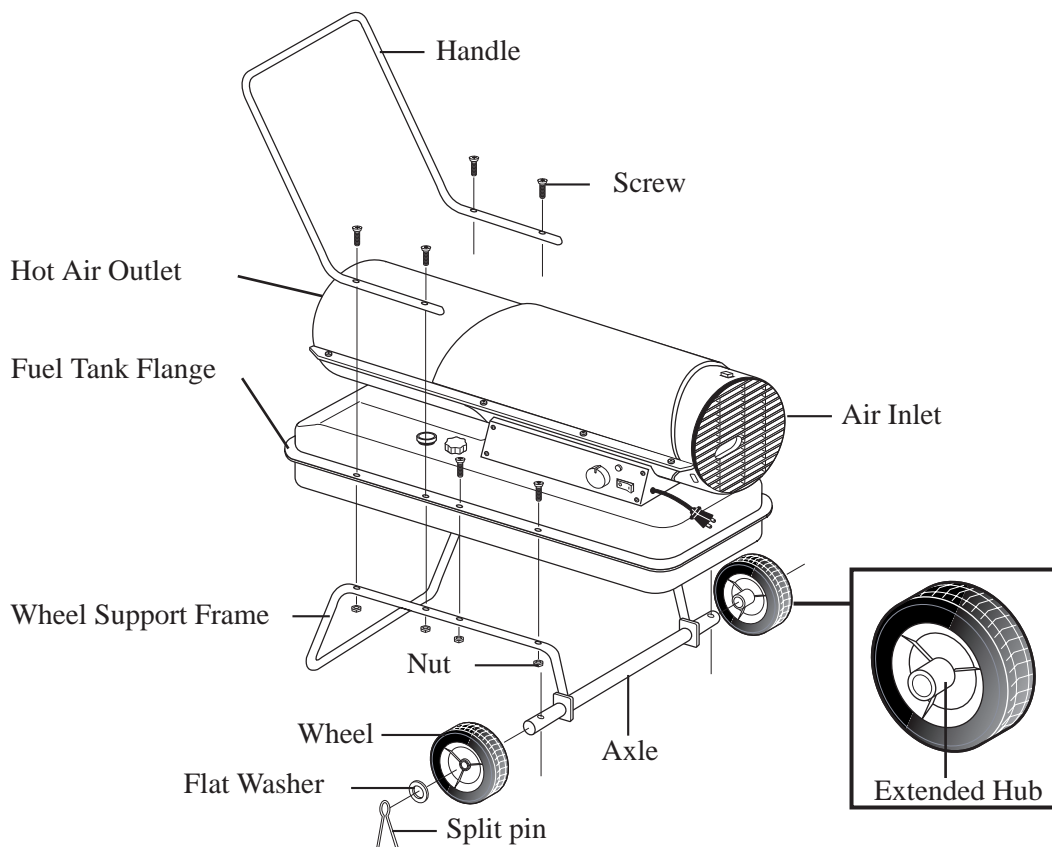

Figure 7. Wheel and Handle Assembly, RMC-KFA120T/RMC-KFA170T/RMC-KFA210T MODELS ONLY
B. For RMC-KFA120T / RMC-KFA170T / RMC-KFA210T Models only (Figure 7)
NOTE: When installing wheels, point extended hub of wheels toward wheel support frame (see Figure 7)
4. Position the handle on top of fuel tank flange. Insert screws through handles, fuel tank flange, and wheel support frames as shown in Figure 7 and attach nut finger tight after each screw is inserted.